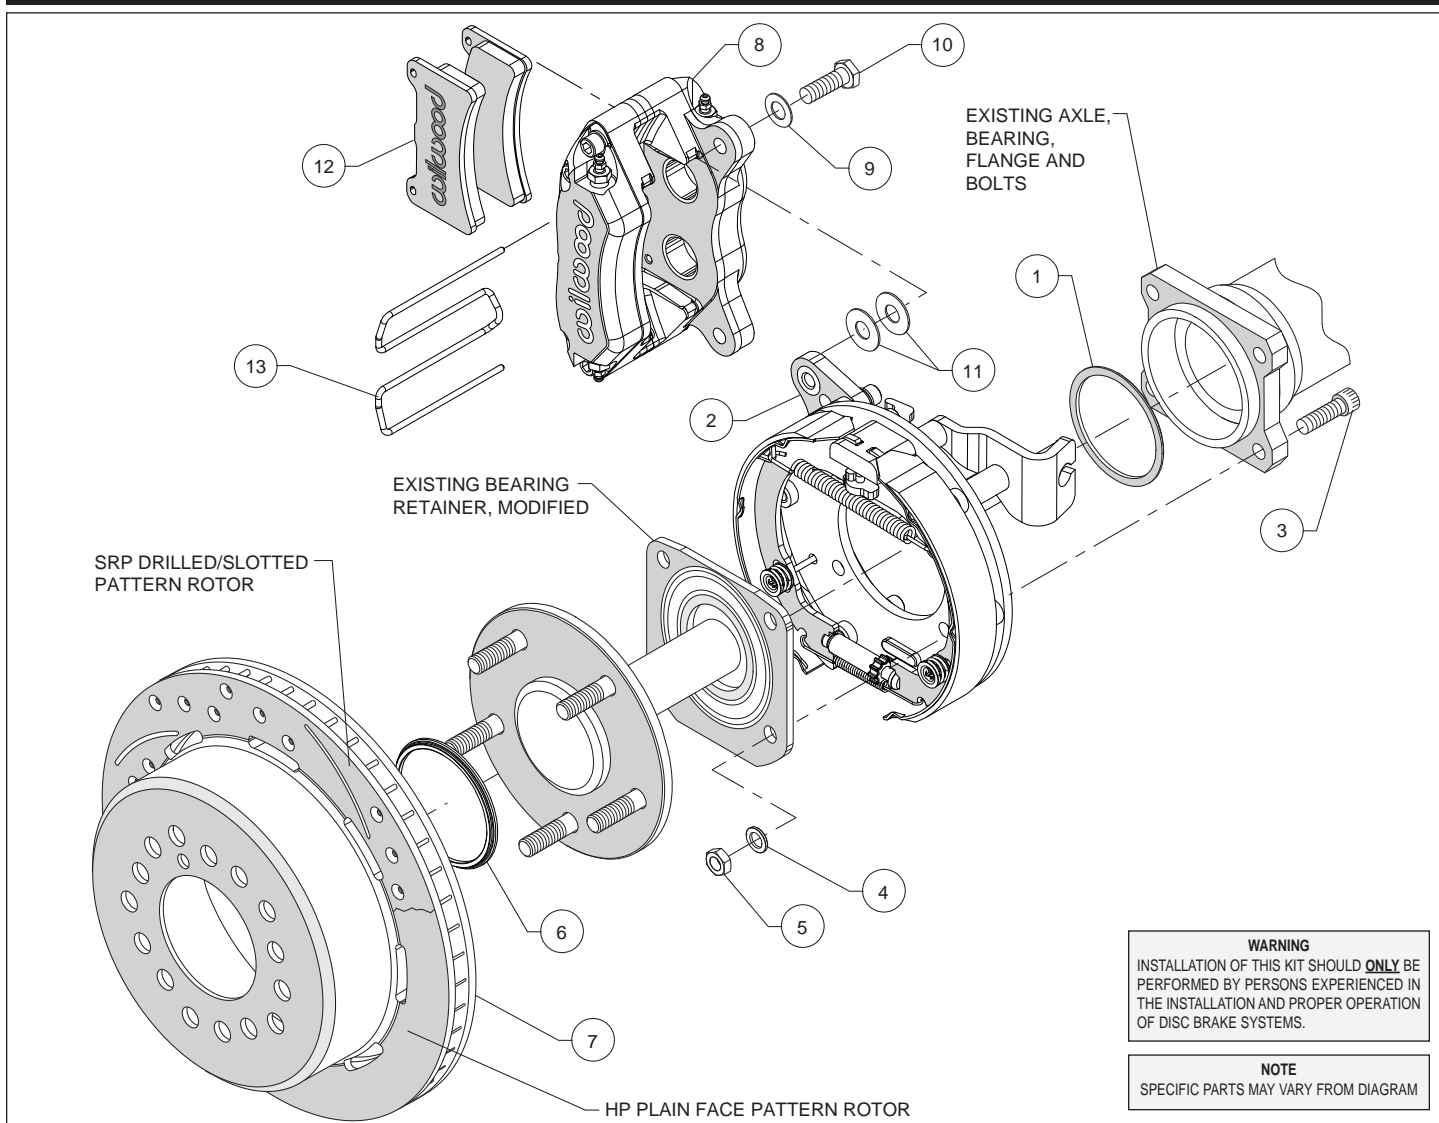

Figure 1. Typical Installation Configuration
**Assembly Instructions** (numbers in parenthesis refer to the parts list, and Figure 1 on the preceding pages): **CAUTION:** All mounting bolts must fully engage clinch nuts. Be sure to check that all bolts are either flush or protruding through flanged side of clinch nut after shimming, Figure 5.
- With the bearing retainer in place, slide the caliper mounting bracket assembly (2) onto the axle as shown in Figure 1 and Photo 1. Install axle shim (1) over axle shaft with bearing chamfer facing toward the axle housing, as shown in Photo 2.
- Slide the axle and parking brake assembly into the axle housing ensuring that the backing plate is flush with the axle housing flange and the bearing retainer is flush with the backing plate. Secure OEM bearing retainer using bolts (3), washers (4) and lock nuts (5), as shown in Figure 1. Lock nuts (5) and washers (4) that retain the caliper mounting bracket assembly (2) should be on the wheel side of the bracket, Figure 1. Torque nuts to 40 ft-lbs.
- Slide the rotor registration adapter (6) onto the axle register on the axle flange with the smaller O.D. facing toward the rotor/hat (7), Photo 3. Align the correct hole pattern in the rotor/hat with the stud pattern on the axle flange and slide into place, Figure 1 and Photo 4. **NOTE:** The rotor/hat must fit flush against the axle flange or excessive rotor run out may result. Install three lug nuts (finger tight) to keep the rotor/hat assembly in place while continuing with the installation. **NOTE:** Some OEM and after market axles come with stud sizes larger than 0.50" diameter. Verify stud size and have a qualified machine shop drill the bolt circle of the hat/rotor to the correct stud size, if necessary.
- NOTE:** Please reference the caution statement at the beginning of the assembly instructions. Mount the caliper (8) onto the caliper mounting bracket (2) using bolts (10) and washers (9), as shown in Figure 1. Initially place two .035" thick shims (11) on each bolt between the caliper and the bracket, Photo 5. Temporarily tighten the mounting bolts and view the rotor (7) through the top opening of the caliper. The rotor should be centered in the caliper, Photo 6. If not, adjust by adding or subtracting shims between the bracket and the caliper. Always use the same amount of shims on each of the two mounting bolts. **NOTE:** The end of each bolt must be flush with or slightly protruding from the head of the clinch nut, as shown in Figure 5. If necessary place spare shims between washer (9) and caliper mounting ear to achieve the proper clinch nut engagement. Once the caliper alignment and clinch nut engagement are correct, remove the bolts one at a time, apply red *Loctite*® 271 to bolt threads, and torque to 40 ft-lb.